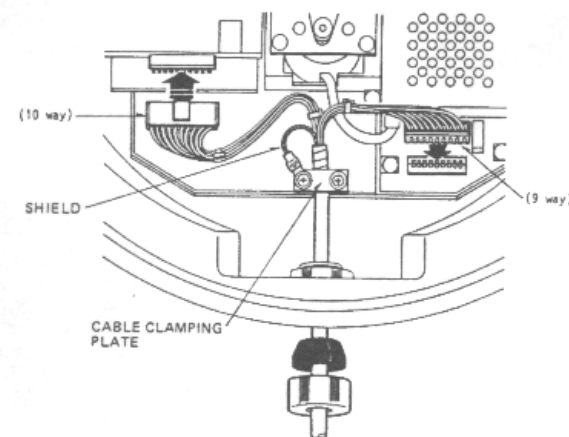

Fig.7 Cable Connection and Grounding
- Remove the cable clamping plate by loosening two M4 screws at the rear of the transceiver module. See Fig.7.
- Secure the cable with the cable clamping plate. At this time, ground the shield of the cable by using one of the fixing screws for the cable clamping plate. See Fig.7.
- Mate the two plugs (9 and 10 ways), referring to Fig.7.